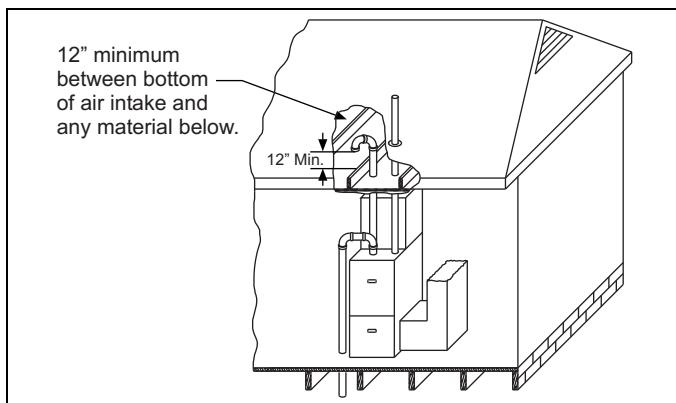

FIGURE 38: Attic and Crawl Space Combustion Air Termination
- VENTILATED COMBUSTION AIR:** Combustion air is supplied through a PVC or ABS pipe that is connected to the PVC coupling attached to the burner box and is terminated in a ventilated attic or crawl space. The combustion air and the vent pipes are not terminated in the same atmospheric zone. Refer to Figure 38 for attic and crawl space termination. Only the combustion air intake may terminate in the attic. The vent must terminate outside.
Refer to Figure 38 for required attic termination for the combustion air intake pipe. For attic termination, use two 90 elbows with the open end in a downward position. Be sure to maintain 12" (30.5 cm) clearance above any insulation, flooring or other material.